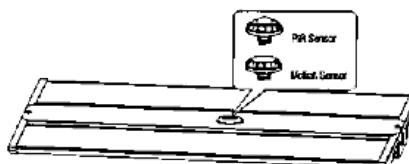

Figure 13
Step 2: Twist-lock the DC sensor to the base to make it work properly, use a remote control to adjust the working mode as per demand. (Figure 13)